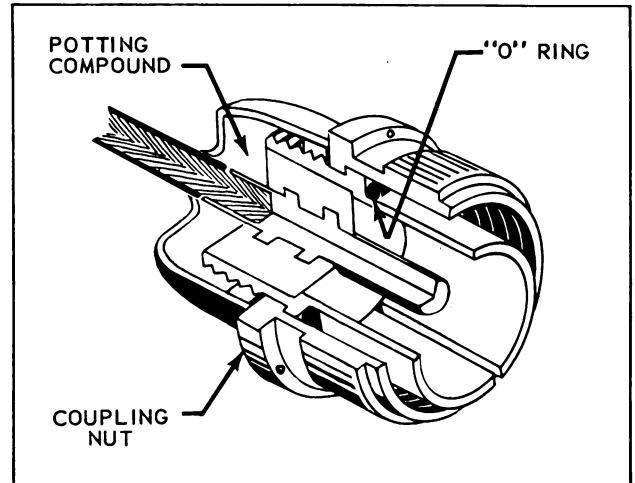

Figure 3-50. Installation of "O" Ring on Potted Connector
l. Moisture seal plugs by installing an O-ring (MS 29513) on the barrel as shown in Figure 3-50. Select O-ring to match barrel diameter from Table XIX.